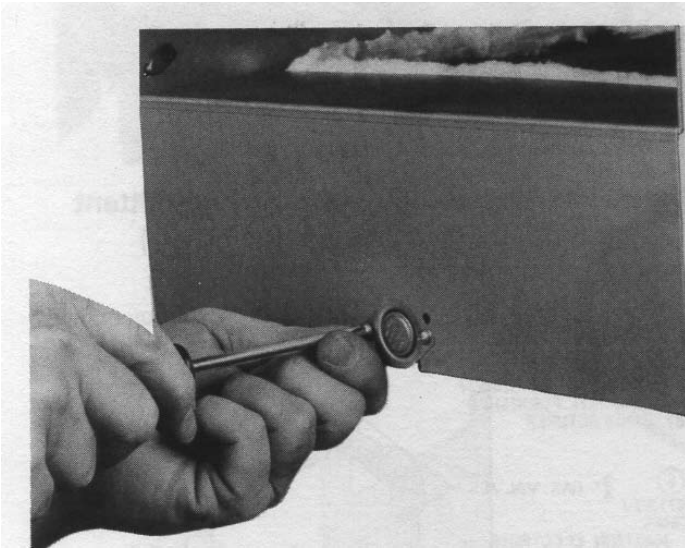

Figure 15: Blocked Vent Switch Installation, IN3 through IN9
1. Models IN3 - IN9. Install on rear flange of canopy. See Figure 15.